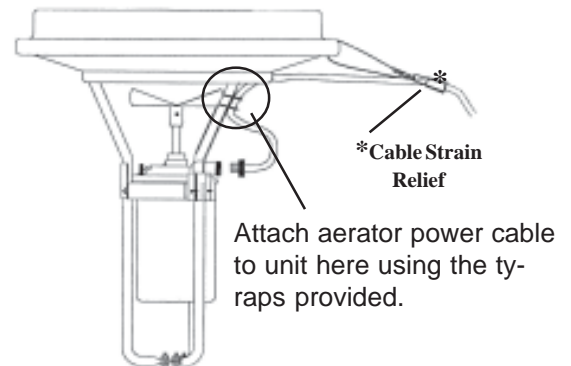

Figure 2
C. Install the cable strain relief device. Pass the wire hoop through one of the holes in the float and around the aerator power cable. Re-attach the cable strain relief --see Figure 2.
D. Attach your aerator power cable to one of the support arms with the ty-raps provided. In corrosive, brackish, and salt water applications use two ty-raps to attach your power cable to the support arm--see Figure 2.